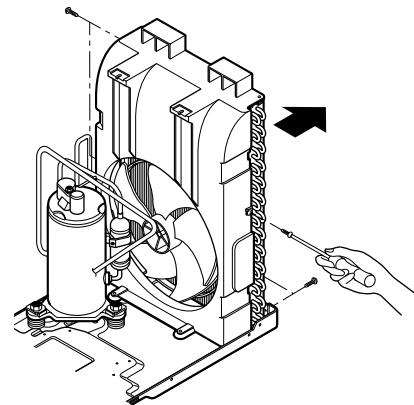

Figure 16
3. Remove the 4 screws which fasten the condenser and shroud. (See Figure 16)
7. Re-install the components by referring to notes on p10. (See Figure 16)